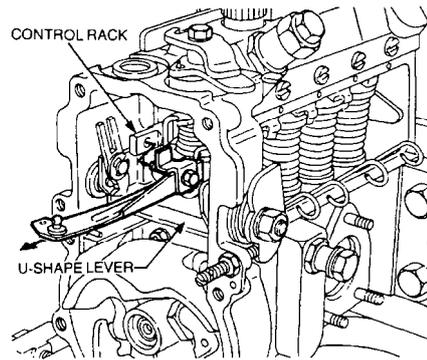

Figure 68 Removing the Connecting Link
- n. Remove the start spring from the rack connecting link. Use two spanners to remove the nut from the bolt securing the connecting link to the control rack and remove the connecting link complete with the bolt and plate (Figure 68).